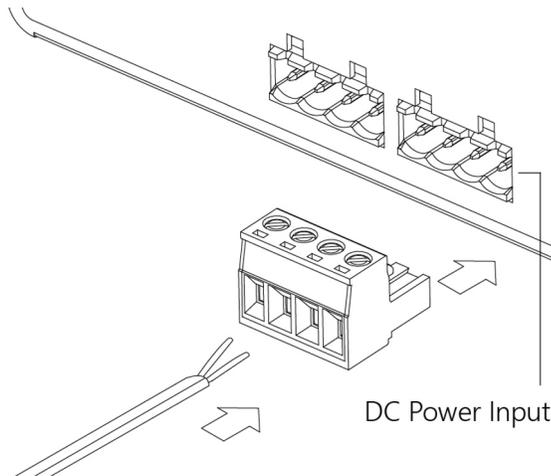

Figure 7. Connecting the DC Power Terminal Block
3. Insert the terminal block connector into the terminal block receptor on the front of the switch chassis as shown in Figure 7.